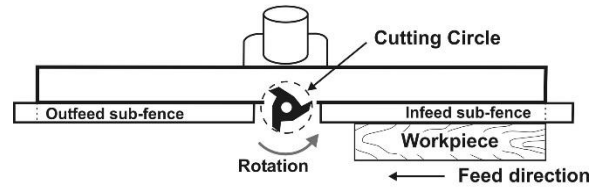

Figure 8-3
- Do not perform “climb cuts” (feeding the work with the bit rotation). Always feed work *against* the bit rotation. See Figure 8-3.
touched by the cutter, both sub-fences are set in a straight line as shown in Figure 8-3.